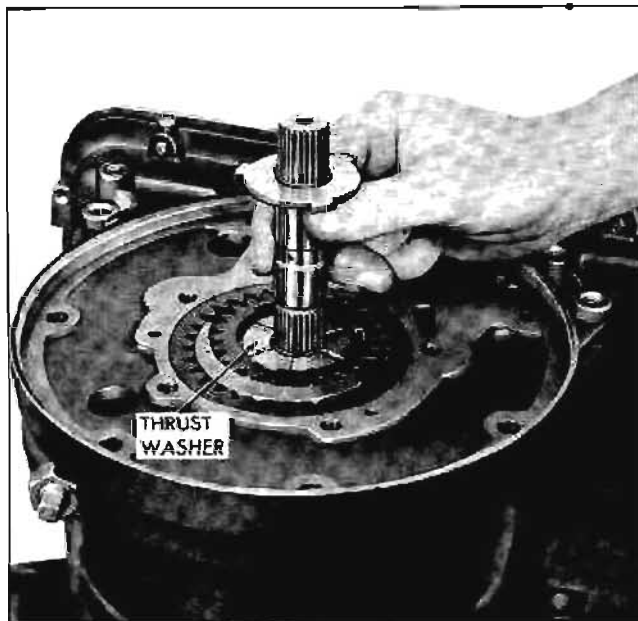

Fig. 7A-31 Removing Converter Pump Shaft
- fully tighten low band adjusting screw (Fig. 7A-29).